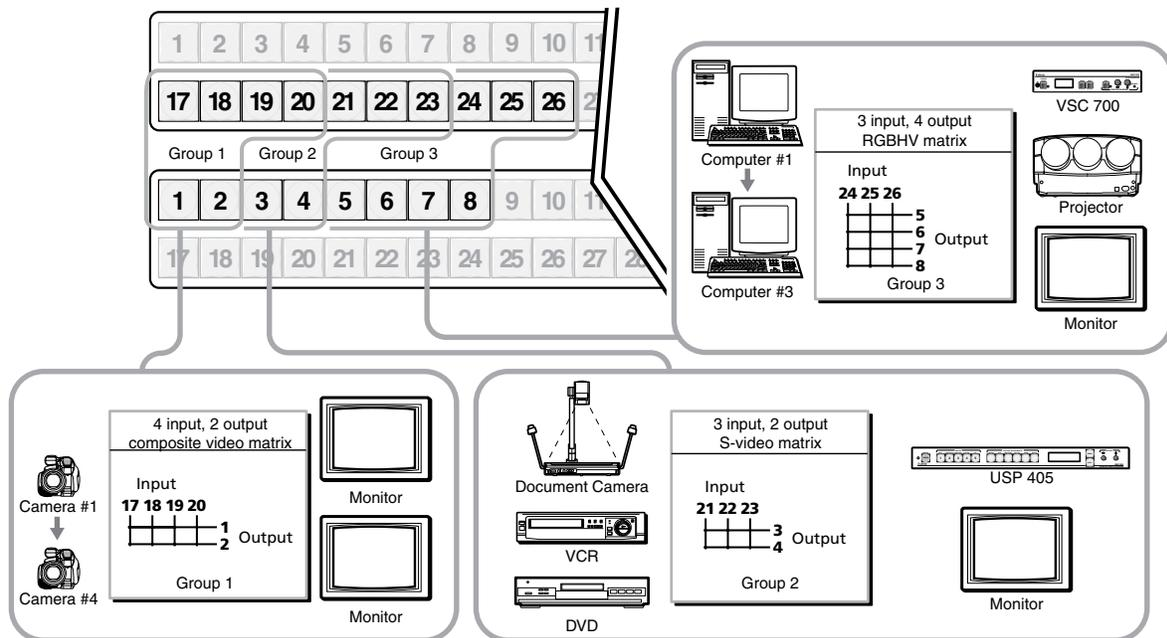

Figure 3-29 — I/O grouping of incompatible video formats
- Segregating specific video formats to prevent an input in one video format from being inadvertently applied to an output device that supports another video format (figure 3-29)